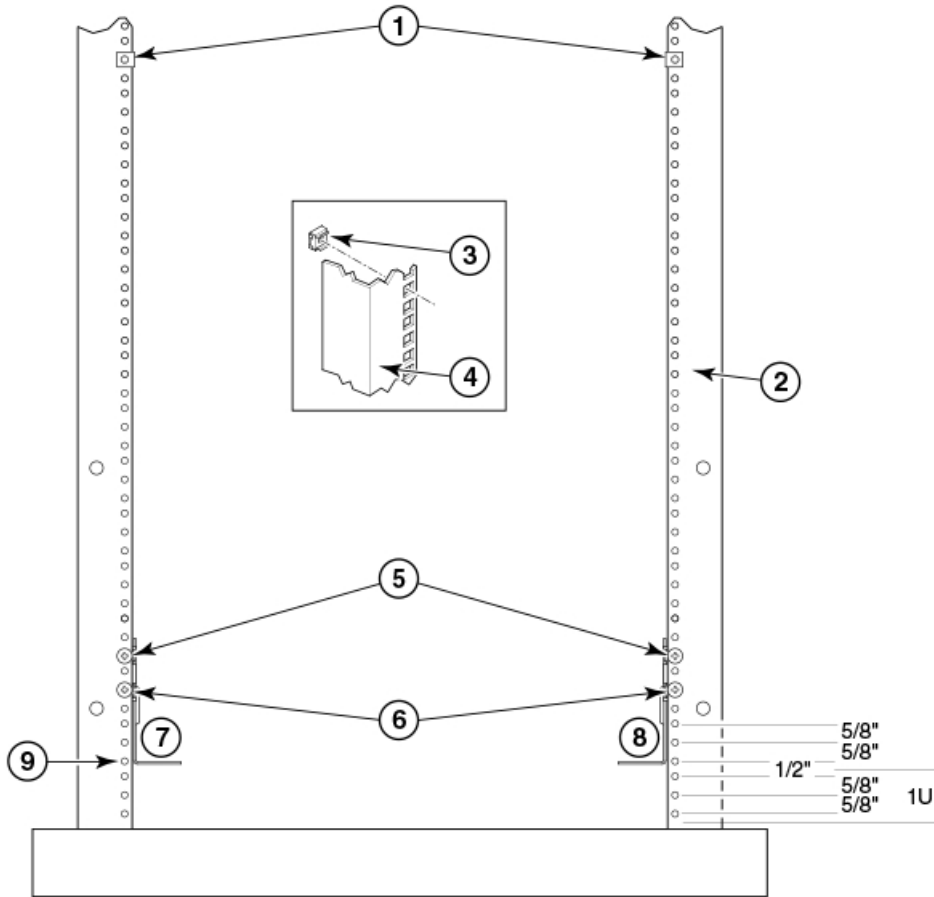

Figure 5. Nut and screw locations for mounting the device
6. Fasten the port side of the device to the rack rails. Use three 10-32 x 5/8 inch (1.58 cm) screws per rail. Tighten the screws to a torque of 32 in-lb (37 cm-kg). Refer to Figure 5.